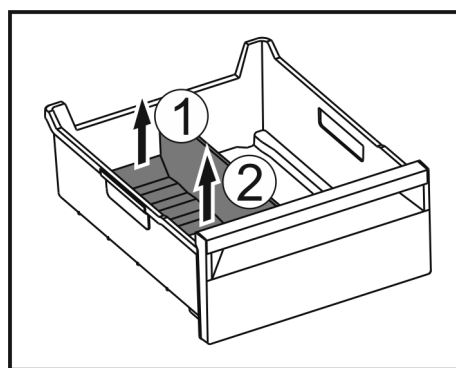

Fig. 234
- Lift the rear part of the ice compartment divider. Fig. 234 (1)
- Remove the ice compartment divider upwards. Fig. 234 (2)